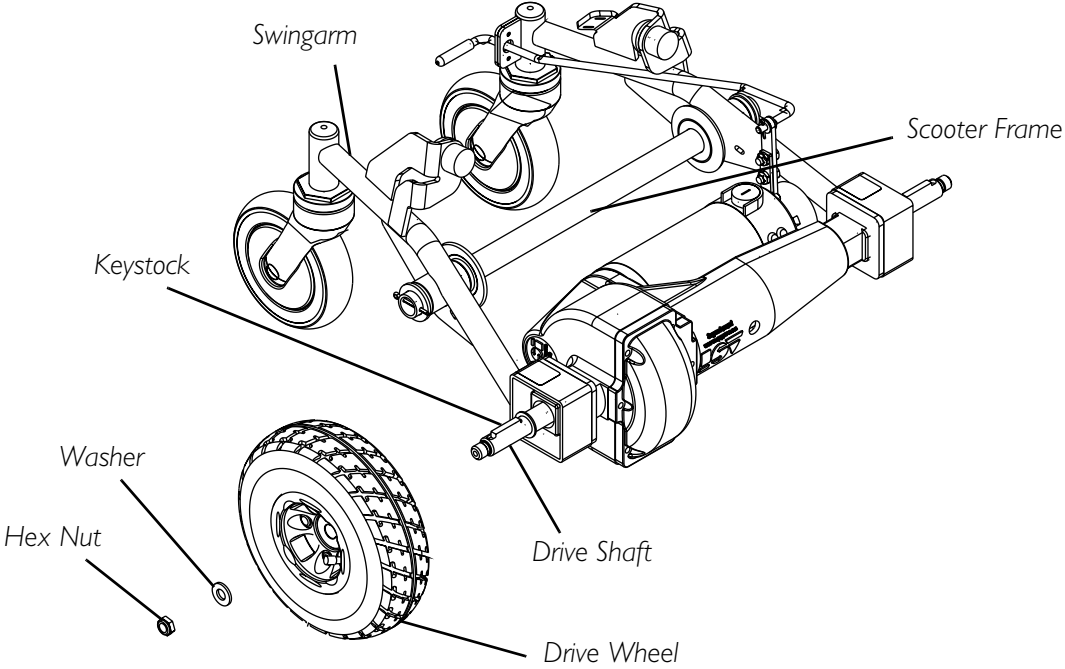

FIGURE 11.1 - REMOVING/INSTALLING THE DRIVE WHEELS
NOTE: For this procedure, refer to FIGURE 11.1.
1. Place keystone in cutout on drive shaft as shown in FIGURE 11.1.